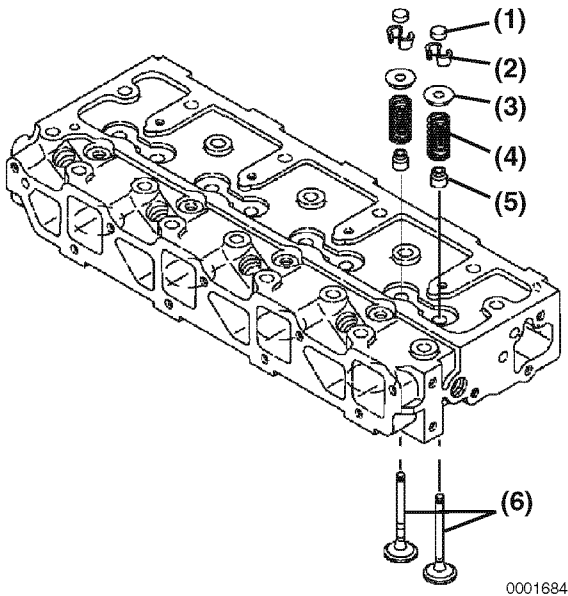

Figure 6-32
4. Place all the valves (Figure 6-32, (6)) in their proper location in the cylinder head.
5. Place the cylinder head on the workbench with the combustion side down to install the valve springs. Install the valve spring (Figure 6-32, (4)) and the spring retainer (Figure 6-32, (5)).
7. Insert the valve keepers (Figure 6-32, (2)) and slowly release the tension on the valve spring. Install the valve cap (Figure 6-32, (1)). Repeat the steps on all the remaining valves.